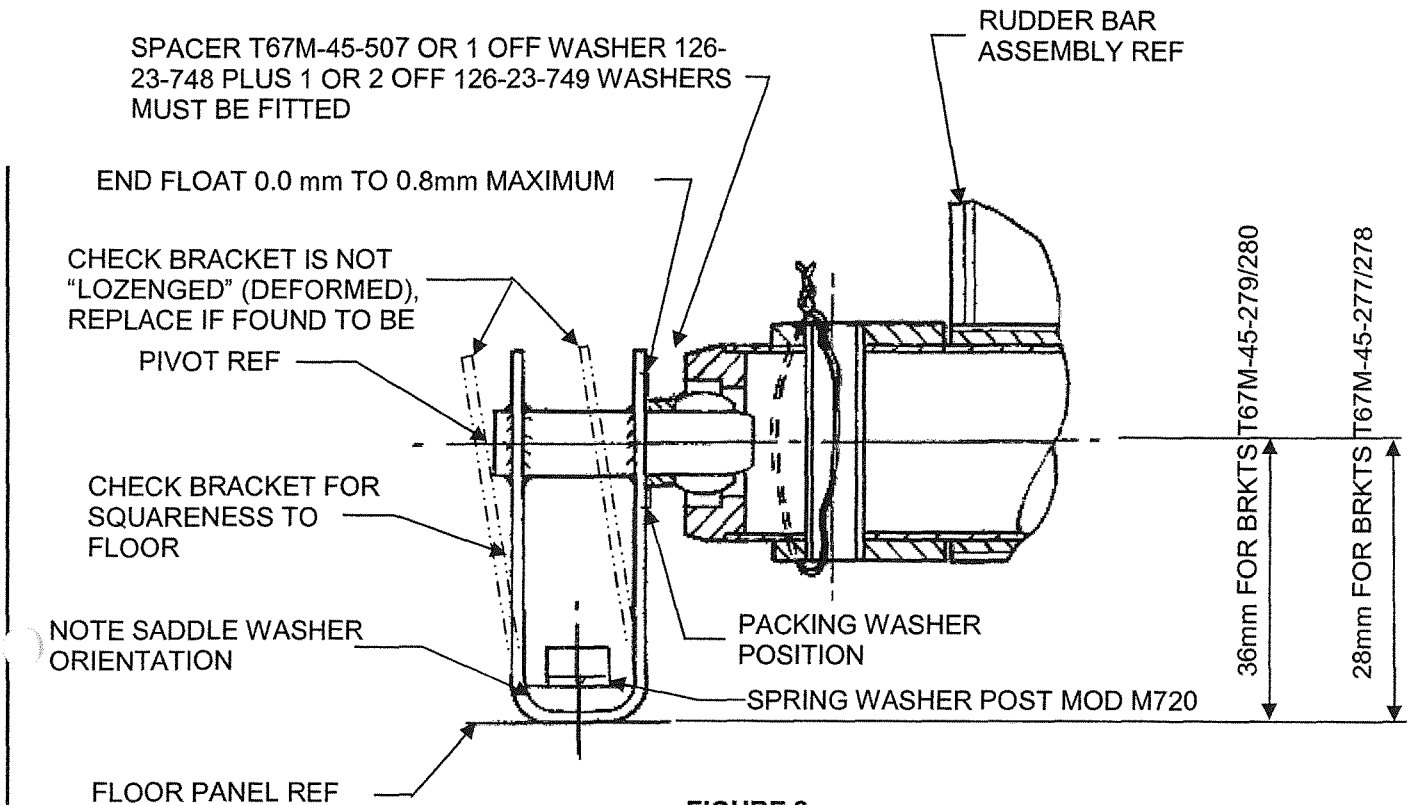
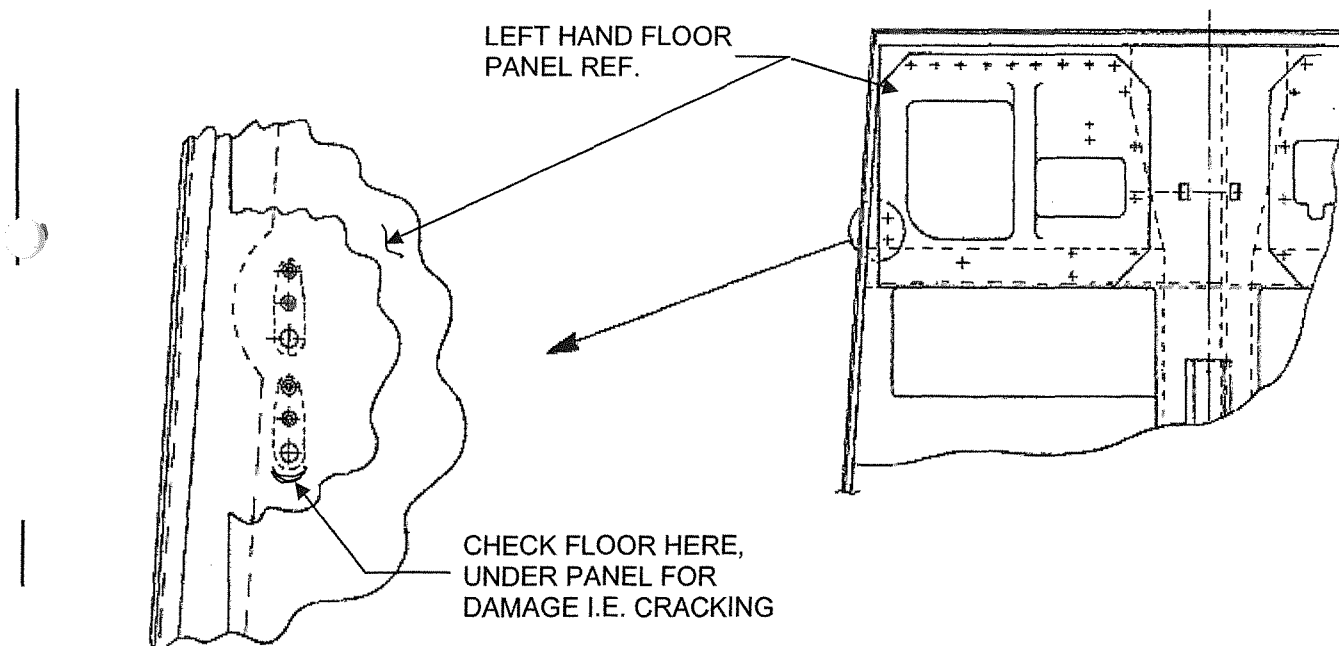

FIGURE 2
FIGURE 3
3. Check forward, aft and lateral play in pedal pads and their sliders; ensure play is no greater than 4.8mm when pedals locked in any of the adjustment positions. If greater than 4.8mm then refurbish pedal assemblies, refer T67M260 Maintenance Manual Paragraph 5.6.5.1 (3). Consult SACL if required.
4. Check rudder pedal bar end float is no greater than 0.8mm. Acceptable end float is 0.0mm to 0.8mm. If end float is greater than 0.8mm then rectify IAW paragraph 9. Refer Figure 2.
5. Check that the Rudder Pedal bar port outboard support bracket, ref. Figure 2 and 4, is square to floor and not "lozenged" and there is no deformation to its base. Check floor panel under area of bracket, inspect for cracking which could allow the bracket to lean. If necessary remove floor panel and check for signs of cracking in the floor around the anchor nuts on Pre Mod M919 aircraft or the anchor nut mounting plate Post Mod M919 aircraft, refer Figure 3. Any GRP damage will be shown as a white shadow on the GRP, with cracking felt as a rough edge. A light shining up through the floor will show a shadow.
7. Should Rudder bar support bracket be damaged, replace with a new item. Ensure brackets are secured with a torque of 58lbf in (6.5Nm). Ensure spring washers are fitted; Mod M720 "Introduction of Spring Washers to Rudder Pedal Lay-shaft Mounting Bracket Screws" refers. Ensure when refitting brackets that the saddle washer, T67M-45-537, is re-fitted and is assembled with its corner radius into the brackets radius, refer Figure 2. Ensure that the taller mounting brackets, T67M-45-277/278, are supporting Rudder Pedal Bar T67M-45-257, i.e. Port Rudder Bar, refer Figures 2 and 4.
8. Check the remaining rudder bar support brackets, are square to floor and are not "lozenged" and there is no deformation to their bases, reference Figures 2 and 4. If any bracket is found to be suspect replace with new item. Check floor under any damaged support bracket by removing panel. Ensure washers and brackets are correctly assembled refer paragraph 7 above. Inform SACL of any damaged bracket or additional floor damage. Assemble item as per paragraph 7 and ensure end float is as stated in paragraph 9. Ensure bonding leads are correctly fitted, carry out bonding check refer relevant aircraft's Maintenance Manual.
9. Referring to Figure 2 ensure at each rudder bar pivot position that there is one spacer T67M-45-507 OR one off washer 126-23-748 and up to a maximum of two off washers 126-23-749, i.e. 3 washers maximum.
- 24.7 Ensure that instrument panel forward console sideplate tie bar is replaced; IPC Chap 30, Figure 2/2A refers.